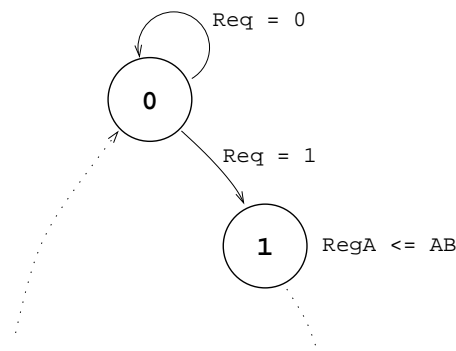

Figure 3: State diagram for the control FSM (Moore type).
- b) Design a state diagram for the controller by completing the state diagram fragment shown in Figure 3. Do not specify individual control signals; we will add such details later. What matters are the states, the state transitions, the conditions/predicates controlling the state transitions, and the RT operations performed in the different states. The latter is exemplified by `RegA <= AB` in state 1 in Figure 3. *Keep in mind that the aim is an implementation using only one ALU. Hence, you can not do more than a single two-operand operation in a clock cycle.*